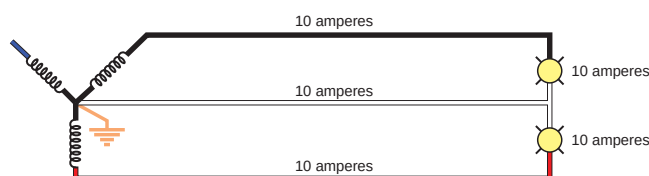

FIGURE 4-5 Four-wire wye system, 3-wire circuit. (Delmar/Cengage Learning)
- DO count the neutral conductor of a 3-wire, single-phase circuit when the circuit is taken from a 4-wire, 3-phase, wye-connected system. See Figure 4-5 and *NEC 310.15(B)(5)(b)*.